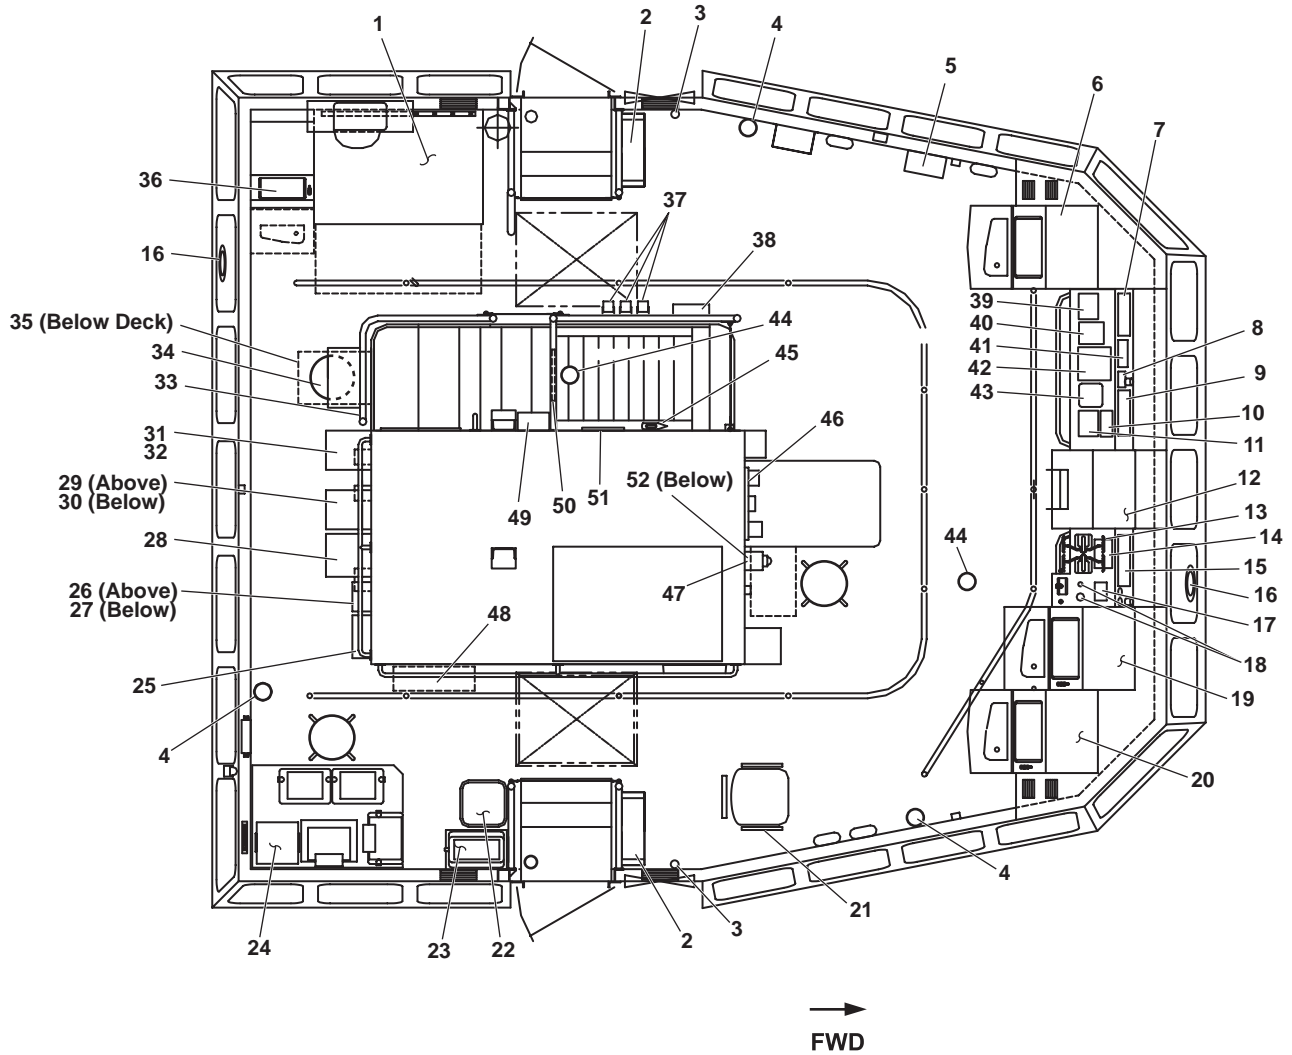

Figure 1. Pilothouse Interior (Plan View)
1. Chart table (figure 1, item 1). The chart table provides open working space for navigation charts.
2. Life preserver storage (figure 1, item 2). Storage is provided for four life preservers. Two are stowed on the port side and two on the starboard side.
3. Search And Rescue Transponder (SART) (figure 1, item 3). Two SARTs are provided, one for each life raft. The SART aids rescue personnel in locating the life rafts.
4. Fire extinguisher (figure 1, item 4). Three 10-pound dry chemical fire extinguishers are located in the pilothouse to permit extinguishing of small fires.
5. Door alarm switchboard (figure 1, item 5). The door alarm switchboard alerts pilothouse personnel to open door conditions for the radio room, arms locker, and main deck fan room. The door alarm switchboard also alerts the pilothouse personnel when the arms locker raw water drenching system has been activated.
6. X Band radar display (figure 1, item 6). The X band radar display is used for navigation.
7. Pilothouse port Heating, Ventilation, and Air Conditioning (HVAC)/fresh air panel (figure 1, item 7). The pilothouse HVAC/fresh air panel provides controls for the port side pilothouse rooftop air conditioning unit and for the pilothouse fresh air fans.
8. Engine Order Telegraph (EOT) power failure panel (figure 1, item 8). The EOT power failure panel notifies pilothouse personnel when an EOT power failure has occurred.
9. EOT transceiver (figure 1, item 9). The EOT transceiver transmits and receives engine order commands between the pilothouse and the EOS.
10. Deck/console lighting panel (figure 1, item 10). The deck/console lighting panel provides controls for deck and console lighting.
11. Starboard searchlight control station (figure 1, item 11). The starboard searchlight control station provides controls for the starboard searchlight.
12. Steering stand (figure 1, item 12). The steering stand provides helm controls for the vessel.
13. Port and starboard main engine throttles (figure 1, item 13). The port and starboard main engine throttles control the speed of the main engines and the direction of rotation of the propeller shafts.
14. Pilothouse starboard HVAC panel (figure 1, item 14). The pilothouse starboard HVAC panel provides controls for the starboard side pilothouse rooftop air conditioning unit.
15. Remote propulsion indicator panel (figure 1, item 15). The remote propulsion indicator panel provides instrumentation for the main engines and for the bow thruster.
16. Clearview screen (figure 1, item 16). Two clearview screens are provided to maximize pilothouse visibility in rain, snow, and sleet. One clearview screen is mounted forward, the other aft.
17. Bow thruster START/STOP controls (figure 1, item 17). The bow thruster START/STOP controls permit pilothouse personnel to START and STOP the bow thruster engine.
18. Bow thruster control (figure 1, item 18). The bow thruster control permits pilothouse personnel to control the speed and direction of the bow thruster.
19. Primary Electronic Chart Display and Information System (ECDIS) display (figure 1, item 19). The primary ECDIS display provides an interface between key navigation components permitting pilothouse personnel to perform trip planning and navigation tasks.
20. S Band radar display (figure 1, item 20). The S band radar display is used for navigation.
21. Navigator's chair (figure 1, item 21). The navigator's chair provides seating for the navigator.
22. Drinking fountain (figure 1, item 22). The drinking fountain provides chilled potable water for personal consumption by pilothouse personnel.